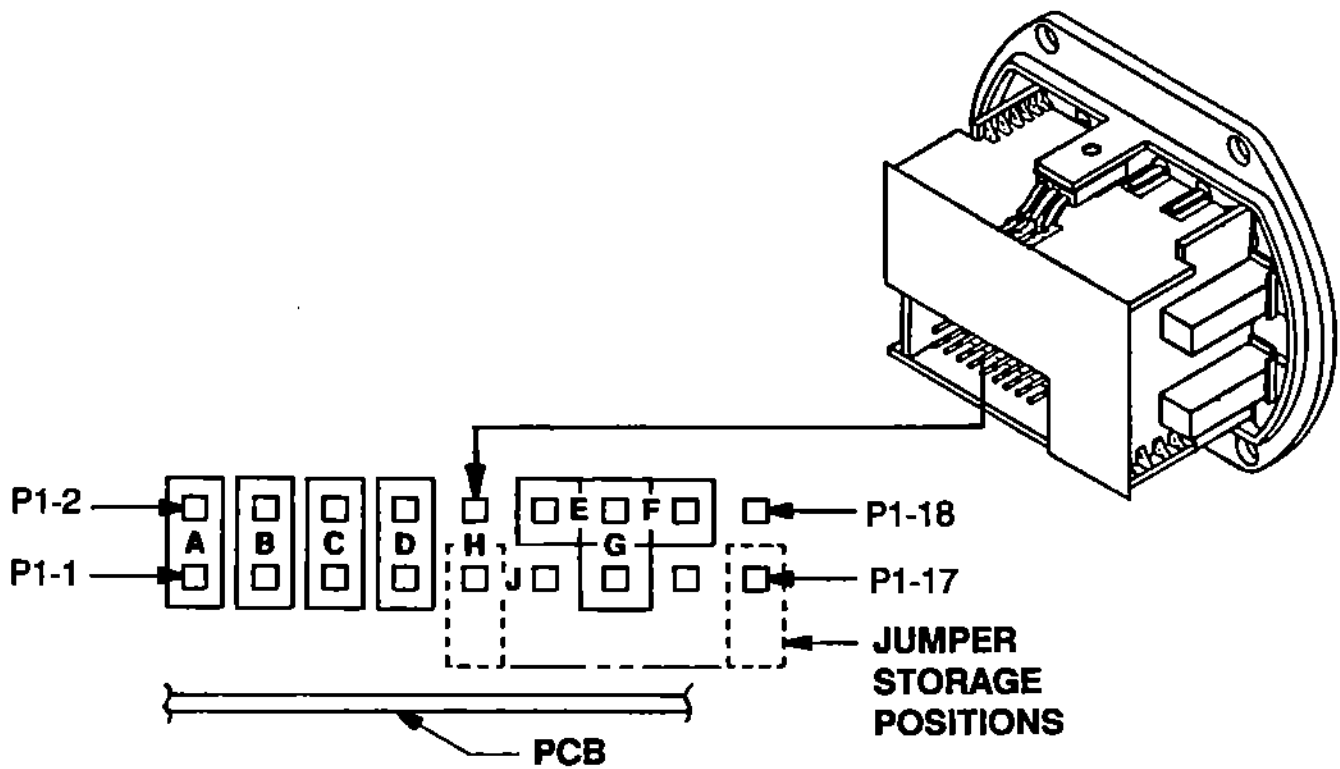

Figure 5-4 Jumper Diagram
4. Turn the unit so that the jumper pin-forest is in view, and install the push-on jumpers on the positions indicated (see Figure 5-4). Place unused jumpers in storage positions.
4. Turn the unit so that the jumper pin-forest is in view and install the push-on jumpers on the positions indicated (see Figure 5-4). Place the unused jumpers in storage positions.